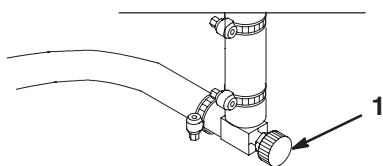

Figure 47
3. Close the fuel shut off valve (Fig. 47) below the fuel tank.